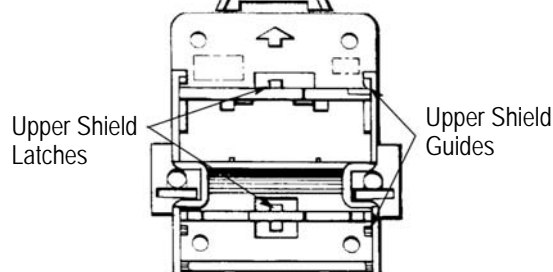

Figure 11
If required, mounting flanges may be trimmed for clearance in switch box. See Figure 11.
5.2. Upper Port Shielding (Figure 11)